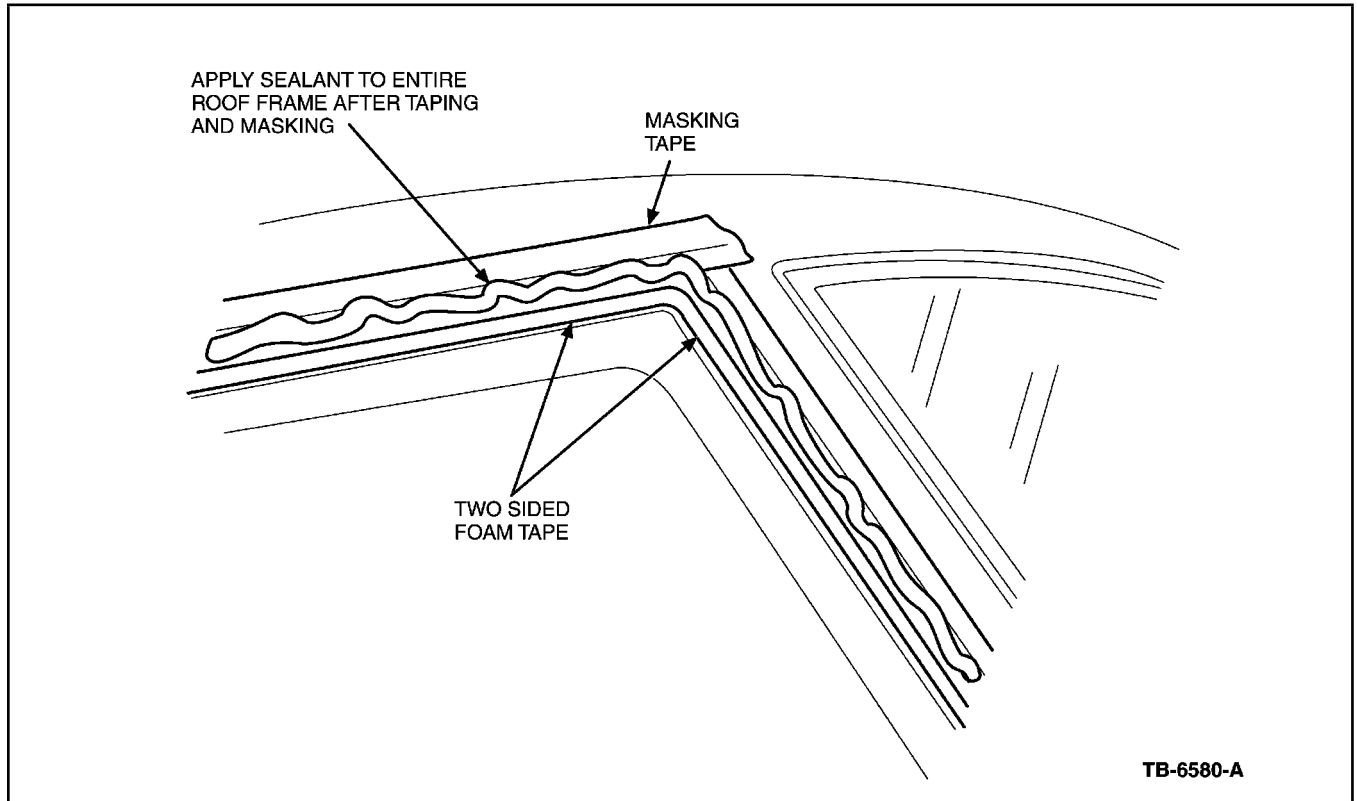

Figure 5 - Article 02-6-4
11. Apply a 5-6 mm bead of 3M Ultra-Pro White Urethane Seam Sealer (p/n 08360) on the roof rails and header, beginning on the outside by the masking tape, and then apply a second bead next to the foam tape. Do not put urethane adhesive on the foam tape. See Figure 5. Be sure to apply sufficient material in the A-pillar area. This product requires a special applicator gun, 3M p/n 08398. For cosmetic purposes, use only white urethane.